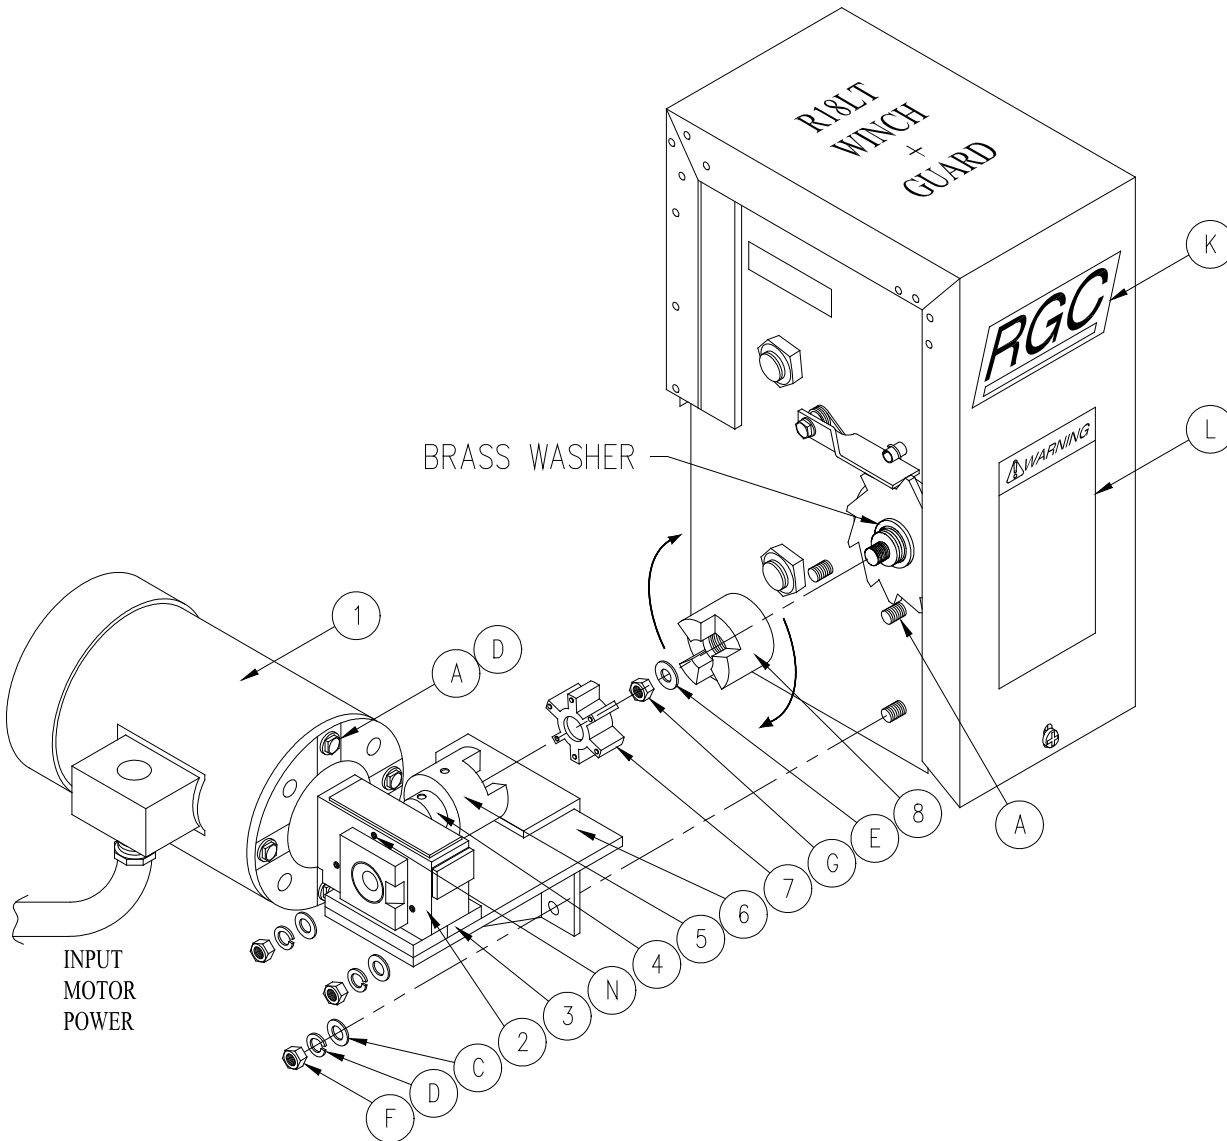

Figure 2-2
1. Refer to Figure 2-2, screw the acme coupler clockwise onto the winch input shaft. The coupler must pinch the brass washer and brake sprocket tightly against the friction disk.
2. Refer to Figure 2-2, from the direct drive mounting bracket, remove the 3/8 X 1" bolt, nut and washer.